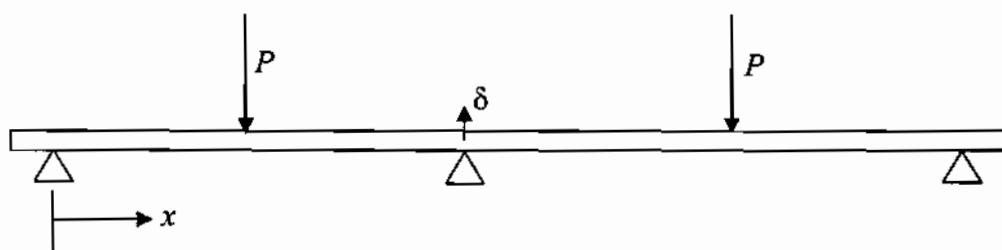

Figure 4
- (b) Consider a uniform shaft of diameter D and length l shown in Figure 4. The shaft is supported by bearings at $x = 0$ and $x = l$. The shaft supports parallel forces P at positions $x = l/4$ and $x = 3l/4$. There is a third bearing at the midpoint $x = l/2$ but due to machining errors this bearing is out of line by an amount δ , in the opposite direction to the direction of the loads P . Assuming that the bearings act as simple supports, derive expressions for the bearing reaction forces and the maximum bending moment in the shaft in terms of P , E , I , δ and l . From this write down an expression for the maximum stress in the shaft. (15)